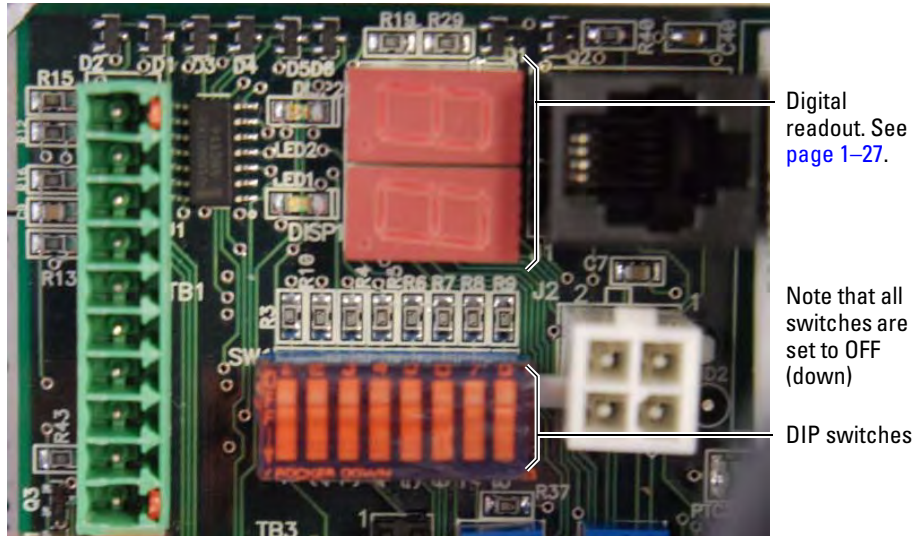

Figure 1.22 View of the electronic board showing the DIP switches and digital readout
**DIP switch settings** Six DIP switches define a feature's mode or enable or disable a feature. For example, your application may include locking and unlocking the door by an electric strike. In that case, you will need to enable the normally (factory-preset) disabled switch by flipping DIP switch 2 to ON. See Figure 1.22 to locate and help identify the DIP switches.